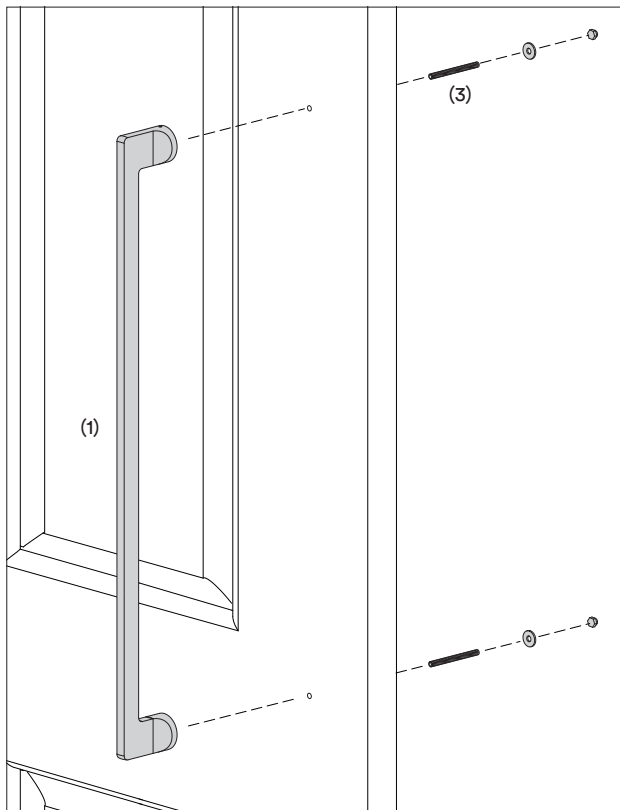

Figure 6.
- 4.4. With taylor spindles already attached to the pull handle, align the female thread of the taylor spindle to the top fixing bolt and tighten. Repeat for bottom fixing point. (Figure 6)